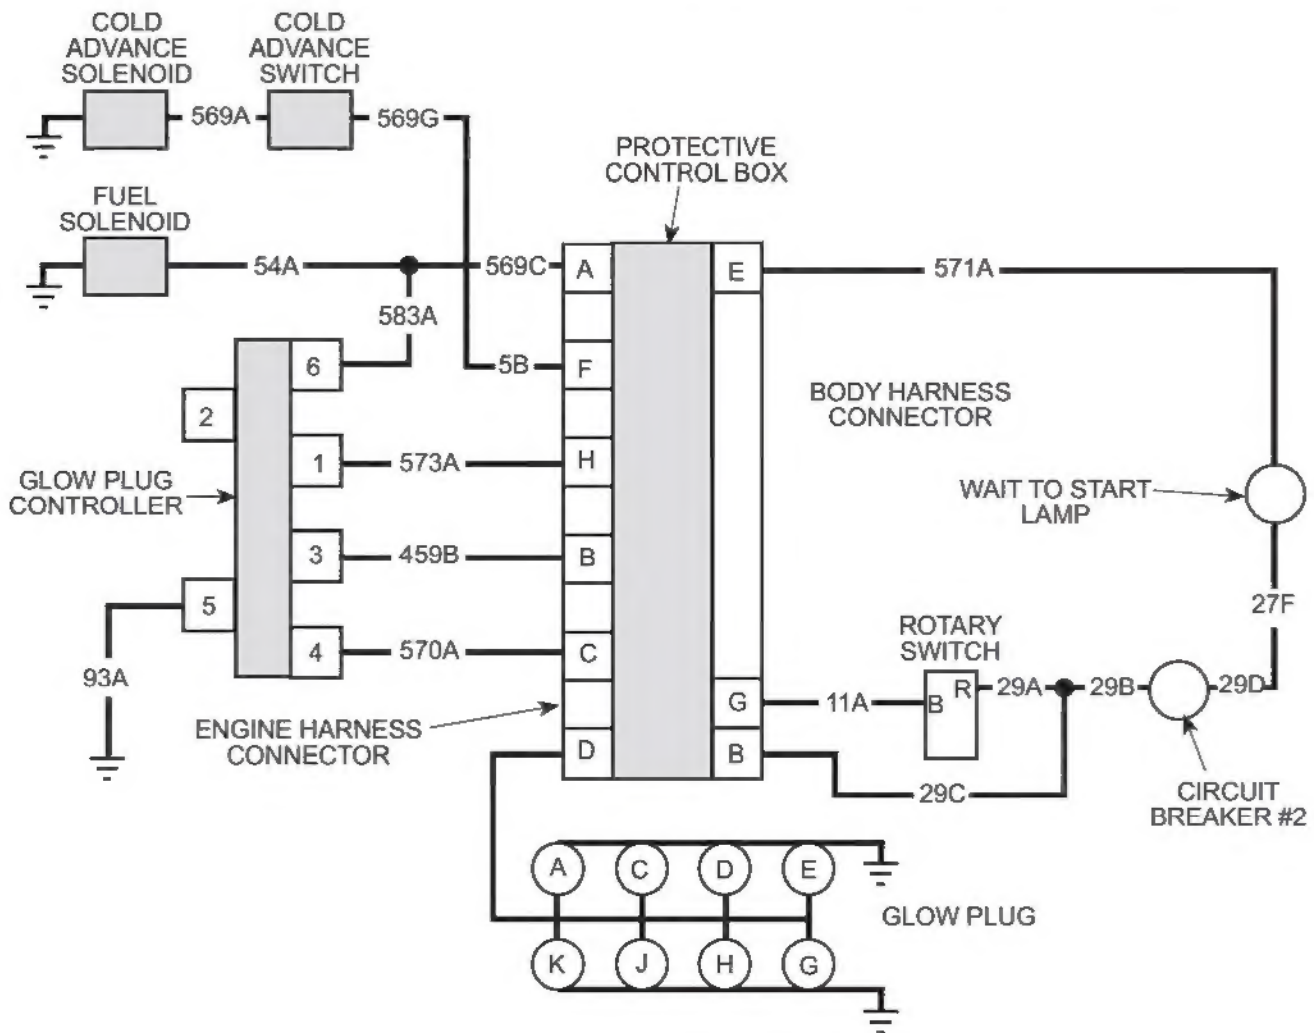

Figure 12-3. Glow Plug Controller Testing
D. 6.2L ENGINE GLOW PLUG SYSTEM (Figure 12-3 through 12-6)